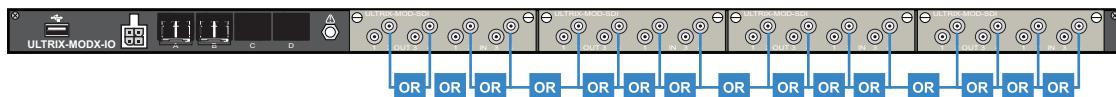

Figure 32 Example of UltriProc 3Gbps Mapping on a Single ULTRIX-MODX-IO Blade
**Figure 32** illustrates the connections allocated for UltriProc on the ULTRIX-MODX-IO blade (with four ULTRIX-MOD-SDI) for data rates up to 3Gbps.